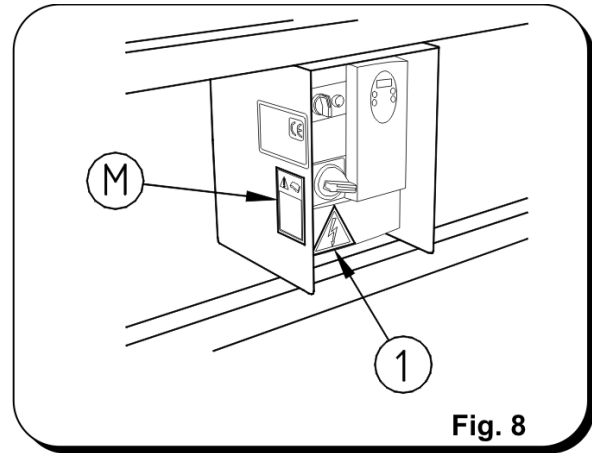

Fig. 8
The operator responsible for the machine must be suitably trained and aware of the contents of this manual. This compulsory requirement is stated and emphasized on the label M attached to the machine (Fig. 8 – pos. M).
This is attached to the electric control panel (Fig. 8 – pos. 1) and it alerts the operator to the hazards deriving from the presence of an electric power supply, so when it becomes necessary to open the control panel or the terminal board attached to the motor, make sure that the machine has been totally isolated electrically.